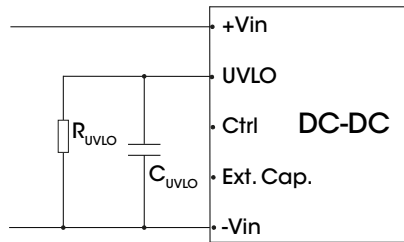

Figure 13. Recommended circuit for undervoltage-lockout adjustment
- 3. The UVLO pin can adjust the point of input under-voltage protection by the external resistance R_{UVLO} for the value of R_{UVLO} , please refer to Fig. 13. If the pin is open circuit, the point of input under-voltage protection is 11 V.
3. The resistance R_{UVLO} sets the undervoltage protection point, for the value of R_{UVLO} , please refer to Fig. 13.